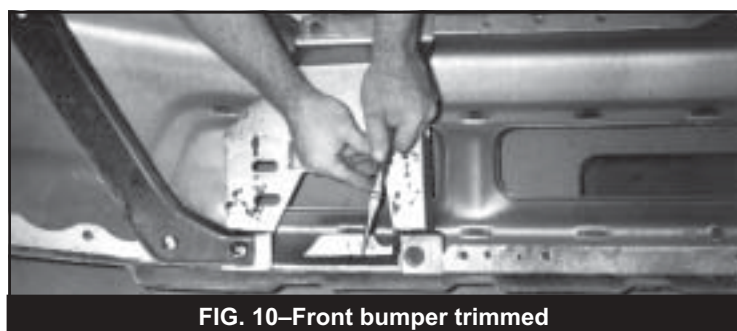

FIG. 10—Front bumper trimmed
43. The bumper must be trimmed to clear the front spring hangers. Remove the material located between the legs of the bumper brackets down to bend in the bumper (Fig. 10).